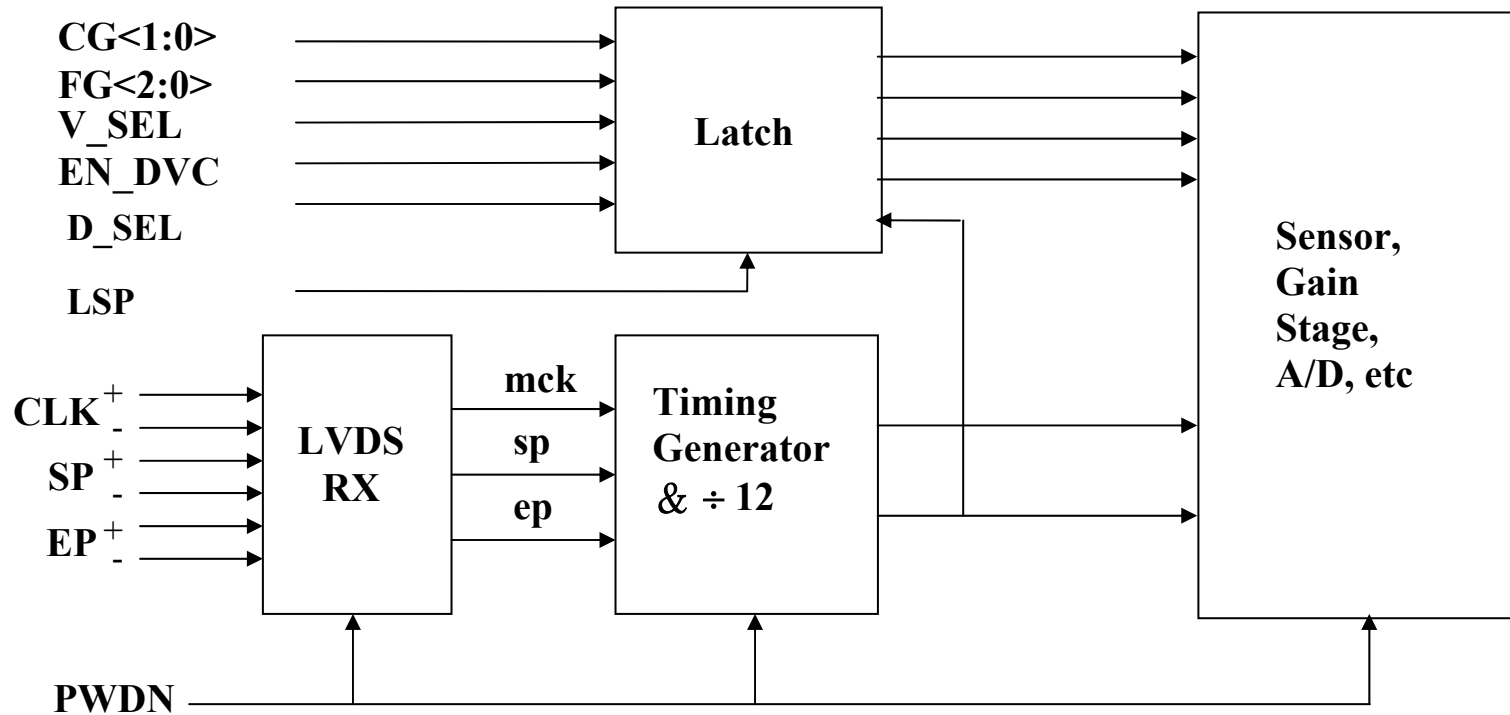

Figure 10: Data Input Control
Figure 10 shows the block diagram of the data input control. It consists of (1) LVDS receiver block, (2) latch block, (3) Timing generator and divided by 12 blocks. All of the timing to operate the device is generated from divided by 12 and timing generator block.
The input master clock (CLK) and external start pulse (SP) go thru a “divided by 12 counter” block and generated pixel clock pulse and initiated start pulse. The master clock is also used for the clock frequency on the parallel to serial converter (Figure 10: Data Input Control). Input Master Clock (CLK) goes thru LVDS where internal master clock (MCK) and internal StartPulse (SP) are provided to the Timing generator block (Figure 10: Data Input Control).